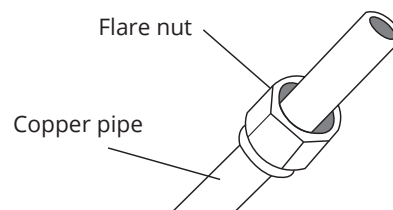

Fig. 7.6
3. Place flare nuts on both ends of pipe. Make sure they are facing in the right direction, because you can't put them on or change their direction after flaring. See Fig. 7.6